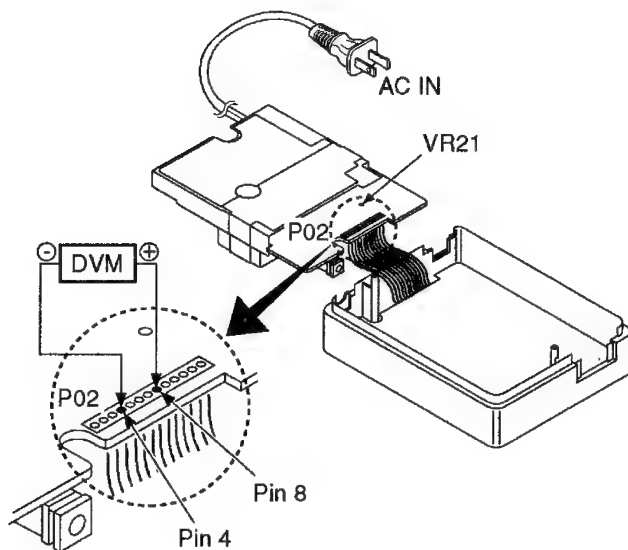

Fig. A1
1. Remove the Bottom Case of the AC Adaptor (Refer to Disassembly/Assembly Procedures of AC Adaptor.) and place the unit as shown in Fig. A1.
2. Connect the DVM (Digital Voltage Meter) as shown in Fig. A1.